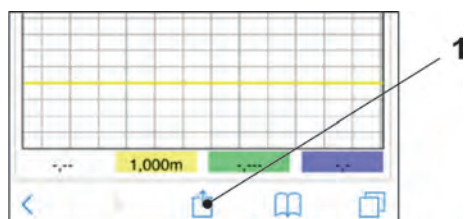

Fig. 30-16 Set up link
- To set up a link on the Home screen (for direct access), tap the "Provide" icon (Fig. 30-16 Pos. 1).